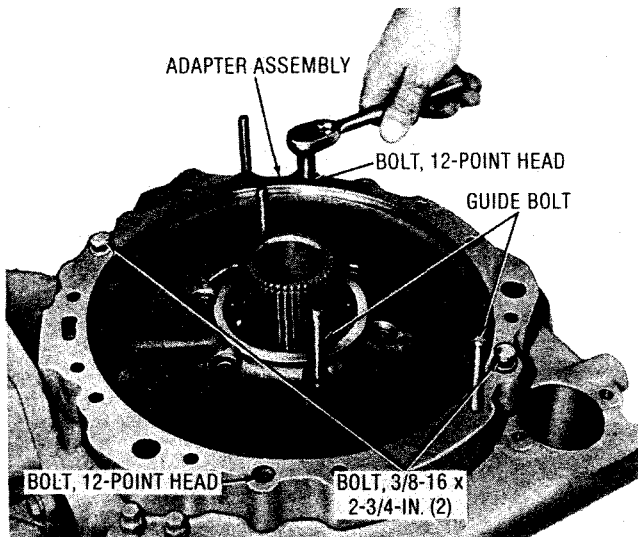

Fig. 7-52. Installing adapter assembly bolts (TRT-3 overdrive)
(12) Install two 3/8-16 x 2-3/4-inch bolts temporarily to pull the adapter assembly down against the piston return springs (fig. 7-52).
(13) Install two 3/8-16 x 1-3/4-inch, 12-point-head bolts into the recessed holes at each edge of the adapter assembly (fig. 7-52). Remove the two outer guide bolts and the temporary pull-down bolts. Tighten the 12-point-head bolts to 36-43 lb ft (49-58 N·m).
(14) Install six 3/8-24 x 1-1/4-inch, self-locking bolts into the inner circle of bolt holes. Remove the two inner guide bolts to install the last two bolts. Tighten the bolts to 41-49 lb ft (56-66 N·m).